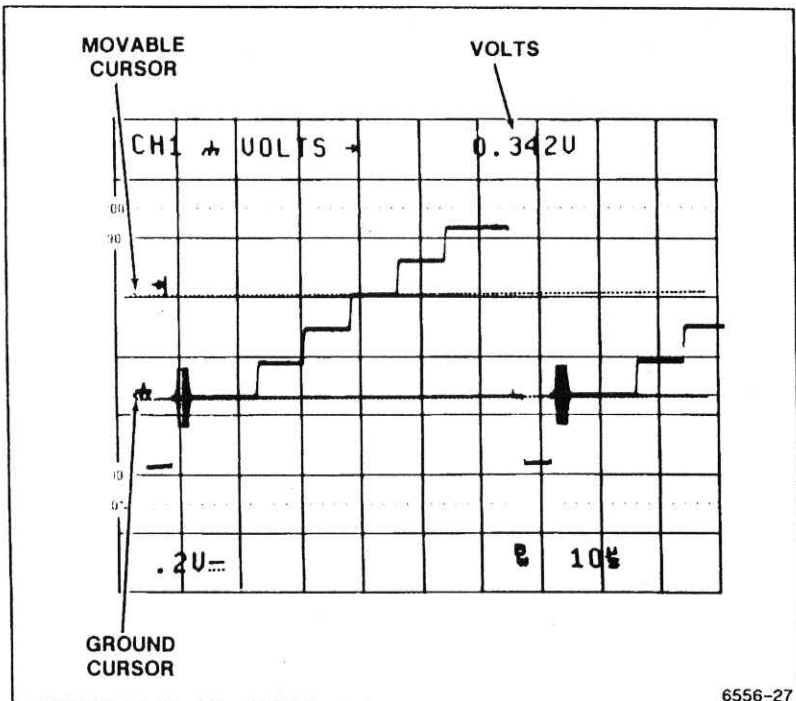

Figure 5-4. Voltage measurement.
- Position the independent cursor using the \rightarrow control to the measurement point on the waveform and read out the value of the cursor position (shown in Figure 5-4). (The \leftarrow OR DELAY control has no effect.)
The test signal used for illustration purposes in Figure 5-4 is a video test signal. For triggering on a video waveform, select TV LINE Trigger COUPLING and negative (\sim) Trigger SLOPE; for other signal types, no change of COUPLING or SLOPE is required.